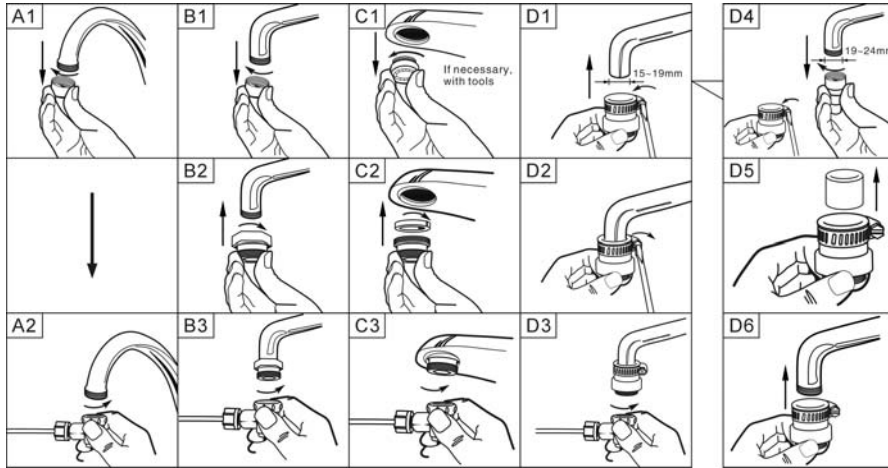

Fig. 3
A – Tap with external thread (A) (Figs. 3: A1–A2)
- (1) Remove the existing aerator from the tap.
- (2) If you have a standard tap, screw the collar directly to the tap.
B – Tap with external thread (B) (Figs. 3: B1–B3)
- (2) Screw the adaptor (I) to the tap and then attach the collar to the adaptor (I), ensure that the additional washer is installed at the top of the adaptor (I).
C – Tap with internal thread (Figs. 3: C1–C3)
D – Tap without thread or you don't have a standard tap (Figs. 3: D1–D6)
Determine if you need take out the bushing of the universal adaptor according to the diameter of your tap: do not need take out between 15–19mm, take out between 19–24mm (see figs. 3: D1, D4)